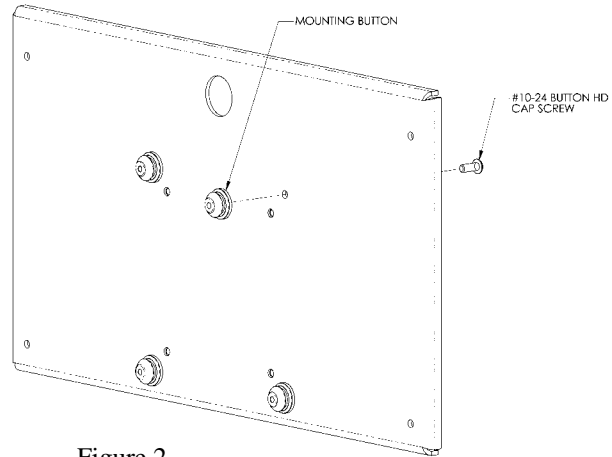

Figure 2
- Assemble (4) mounting buttons to 5" hole pattern on the adapter bracket using (4) 10-24 x .50" Button Hd cap screws (use 1/8" hex key provided) as shown in Figure 2.